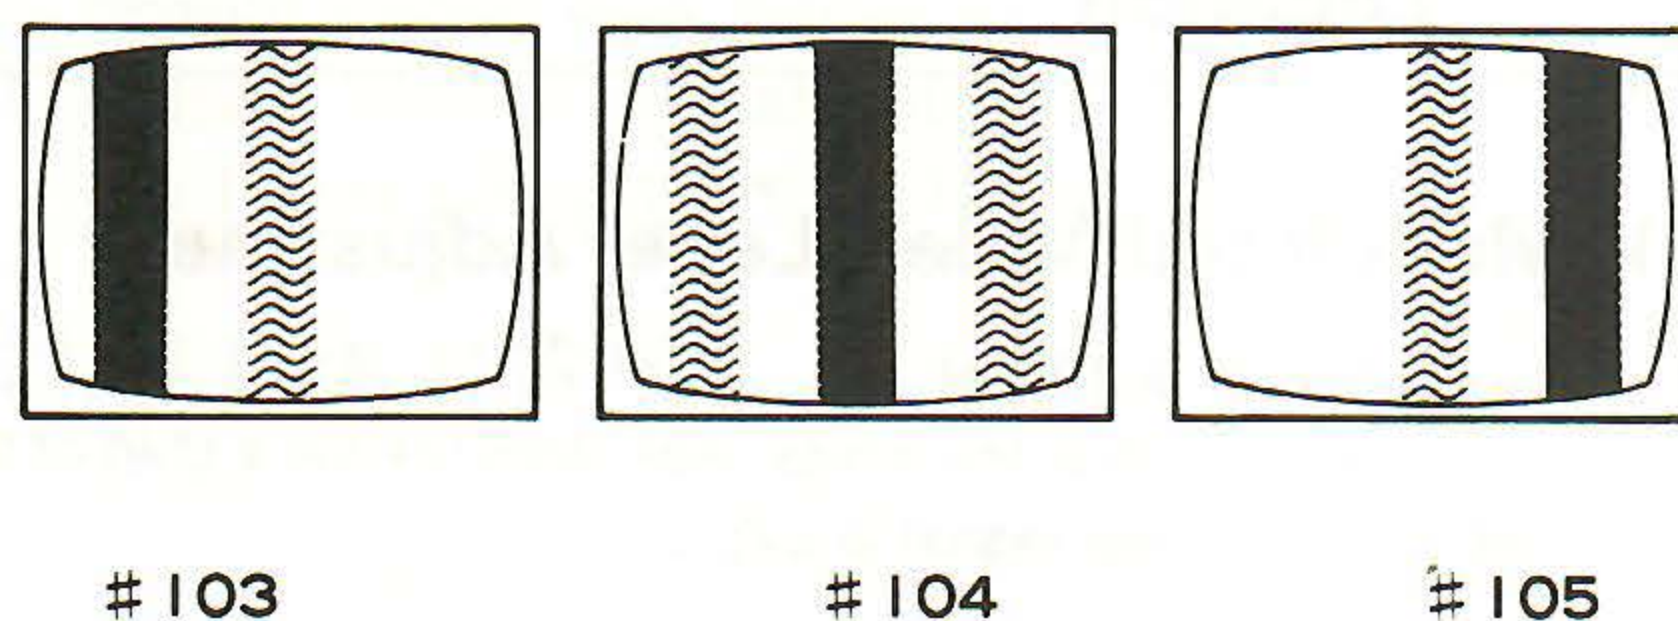

Fig. 10-10 The influence of crosstalk
2. Adjust VR2 so that the crosstalk striped pattern on the left and right sides of the monitor screen are not visible. (Fig. 10-10)